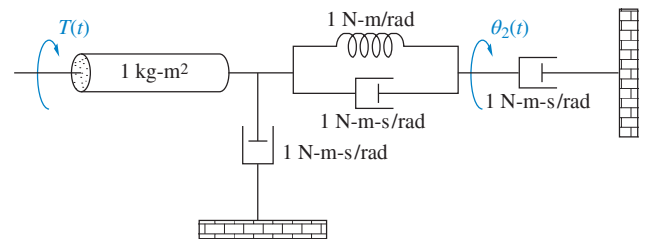

FIGURE P2.18
33. For the rotational mechanical system shown in Figure P2.18, find the transfer function  $G(s) = \theta_2(s)/T(s)$  [Section: 2.6]